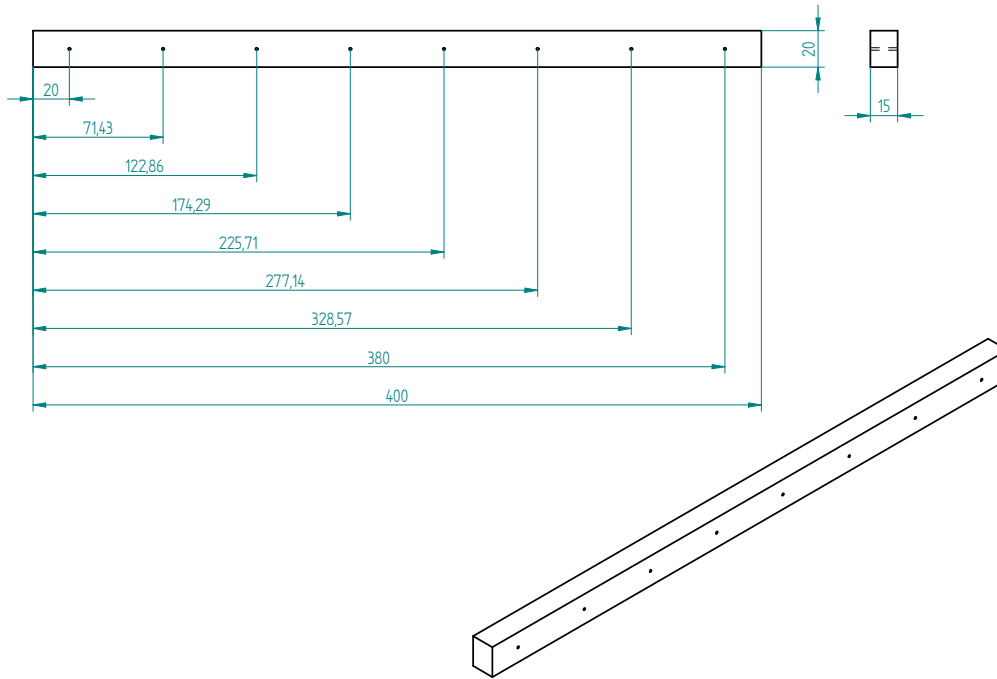

Figure A.2: Shaped part : **guide** for **perpendicularator** tool
2. ask at the carpentry to cut it at the good length (see the length on the figure A.2, page 162) ;
3. drill the holes with diameter 1.4mm (see figure A.2, page 162 for the positions).
Drawing See figure A.2, page 162